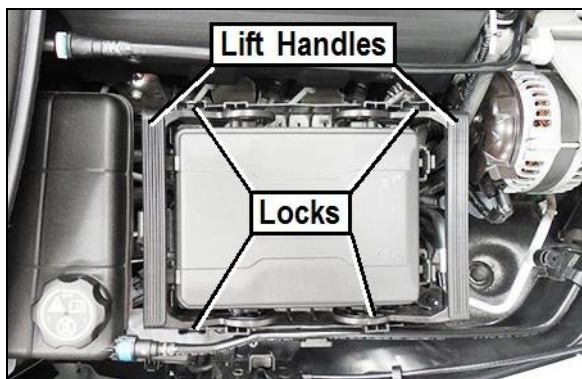

Figure 1
- B) Unlock the lift handles on the module (**Figure 1**). Raise the handles, disconnect the power cables on the left side of the module, and lift the module from the connectors. Take pictures here for reference.